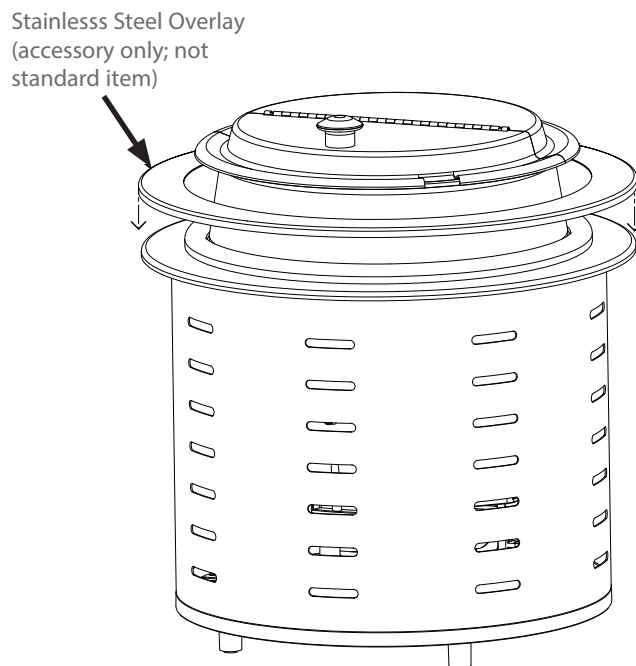

Figure 6: Install the Stainless Steel Overlay Accessory
3. Install the stainless steel overlay, if the accessory was ordered (Figure 6, below).